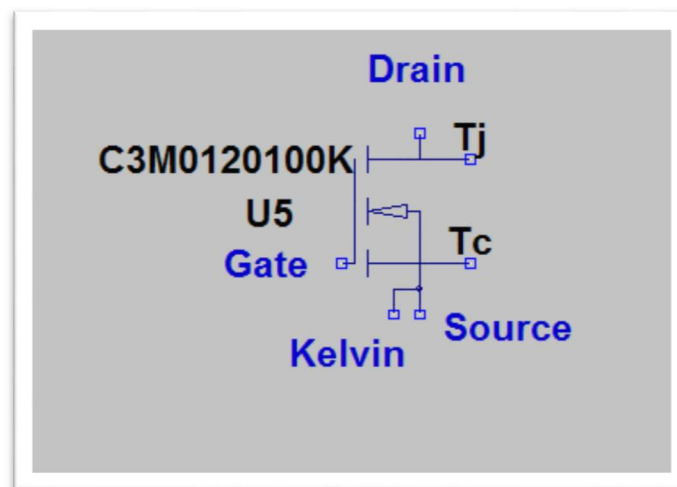

Figure 1. Device symbol in a schematic (reference purpose only).
5. The device symbol will be like the one shown in figure 1. LTspice provides the option for changing the visibility of the labels associated with the terminals.